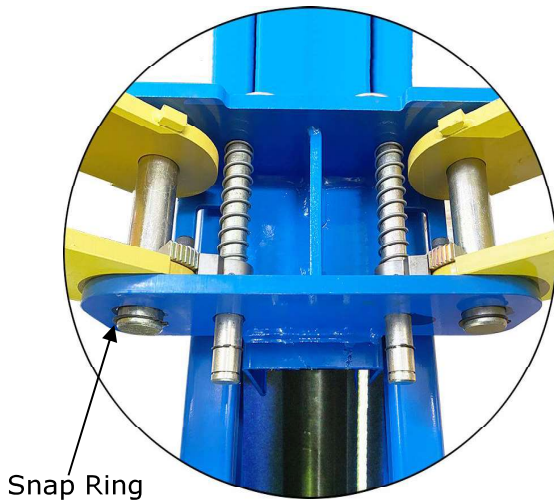

Fig. 25
1. Install the lifting arms (See Fig. 25)